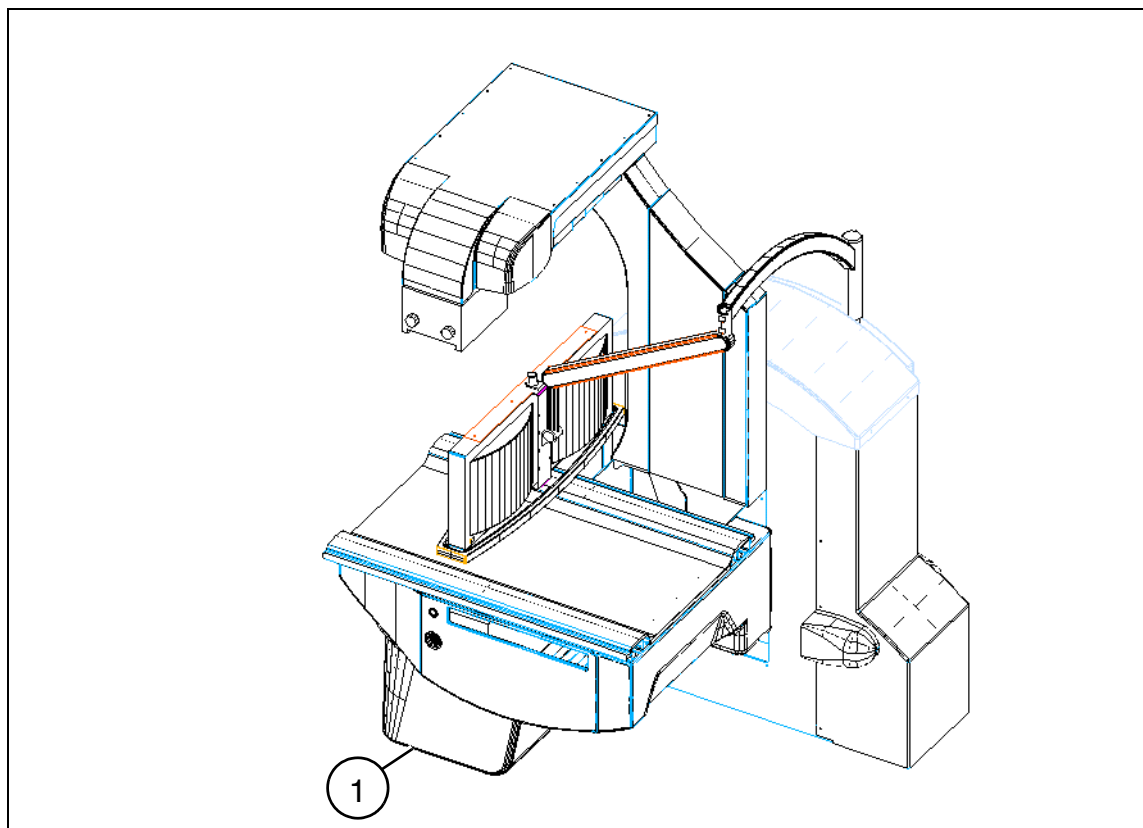

Fig. 4 UROSKOP Access
- Operate manually the safety devices (1/Fig. 4).